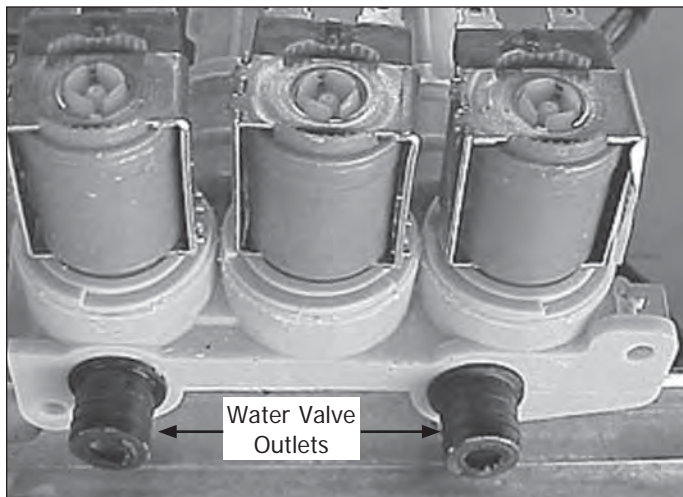

Figure 4-55.
5. Pull back on the valve assembly to disengage it from the detergent dispenser housing and lift out. (See Figure 4-55)